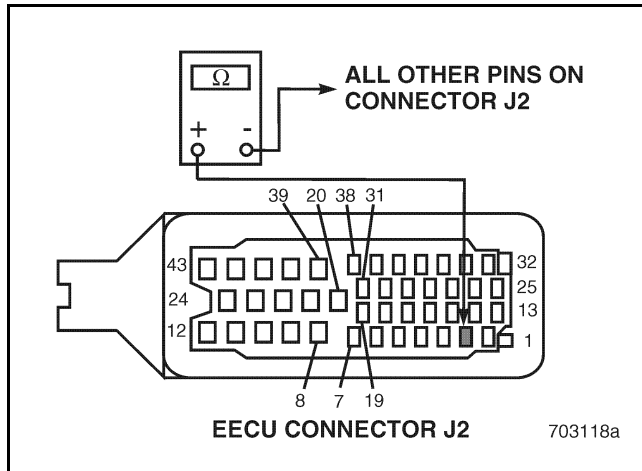

Figure 325
4. Check for continuity between EECU harness connector J2 pin 2 (reference voltage line) and all other pins in EECU harness connector J2 (see Figure 325).